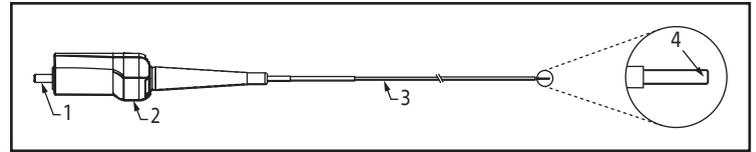
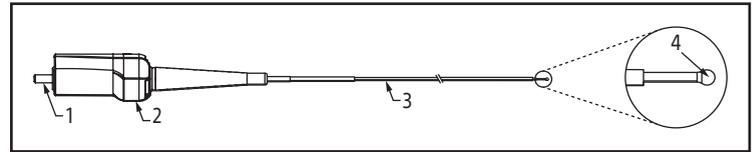

Figure 1. Fibre laser Flexiva Pulse
Figure 2. Fibre laser Flexiva Pulse TracTip
4. Pointe de sortie distale (pointe plate (Fig. 1) ou TracTip (Fig. 2))